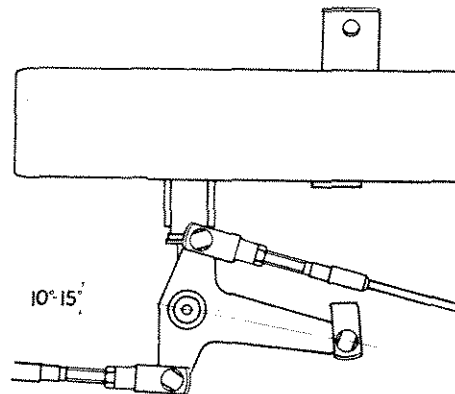

Fig. 15. Angle of handbrake compensator
2. Remove the clevis pin (2) and re-adjust the primary cable to position the compensator lever as shown on Fig. 15. Re-connect the cable.
3. Remove the clevis pins (1) and adjust the transverse cables to remove slackness. Re-connect the cables. The cables are too tight if the clevis pins cannot be easily inserted without straining the cables.